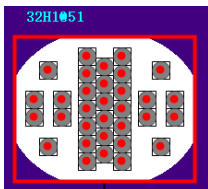

Figure1
1. As shown in Figure 1, the red box indicates that there is no probe.